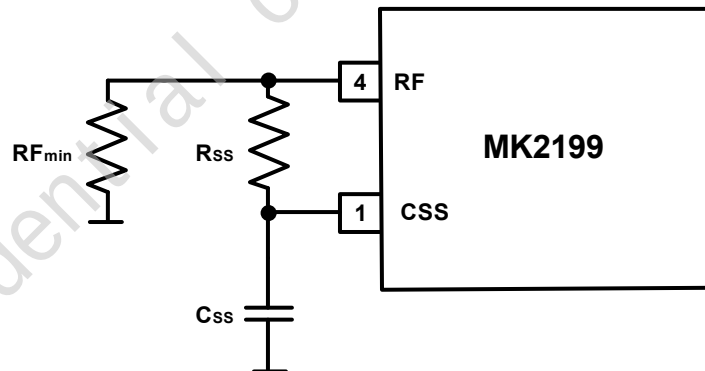

Figure 16. Soft-Start Circuit
Soft-start avoids excessive inrush current during start-up by progressively increasing the converter's power capability. In resonant converters, the deliverable power depends inversely on frequency, so the soft-start is done by sweeping the operating frequency from an initial high value until the control loop takes over. The soft-startup of MK2199 is simply realized with the addition of an R-C series circuit from pin 4 (RF) to ground, as shown in Figure 16.